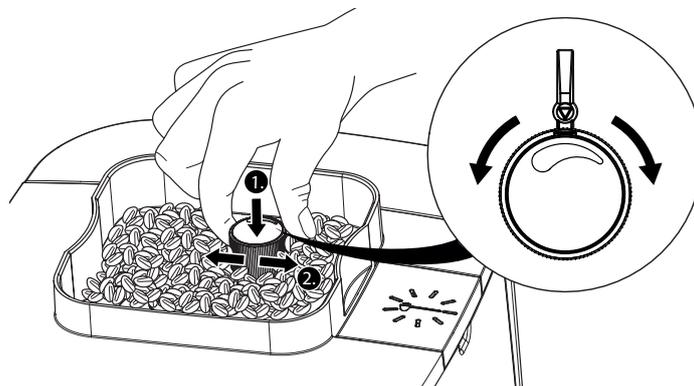

fig. 8: Setting the grind quality
5. Now set the grinding level of the beans on the grinder regulator. To do this, press the grinder regulator down and turn it (fig. 8).